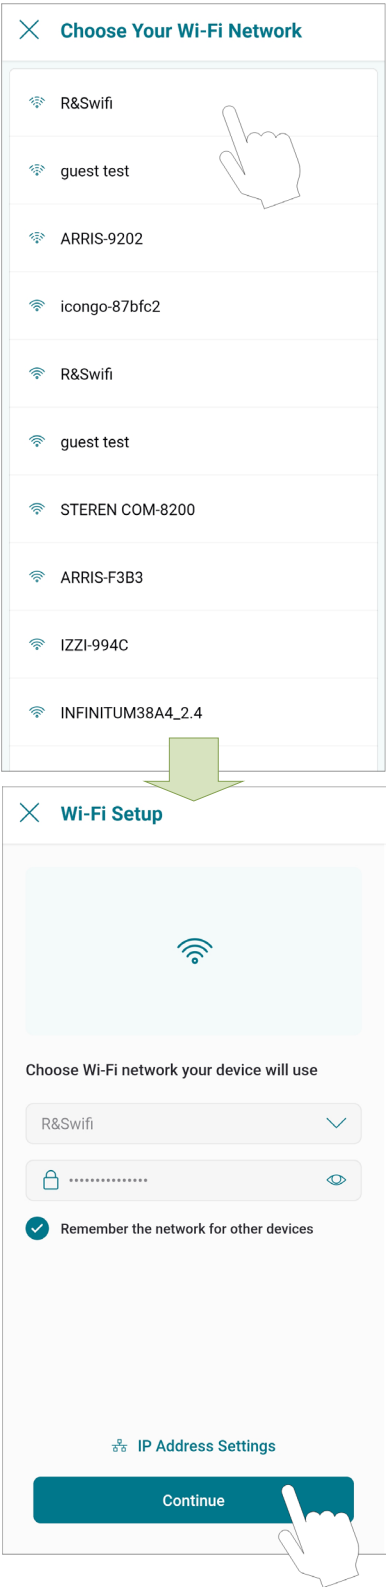

Figure 86. Wi-Fi Setup
5. The "Wi-Fi setup" screen will appear. Select or enter the Wi-Fi network you want your unit to be connected to and enter the network password. See **Figure 86**.